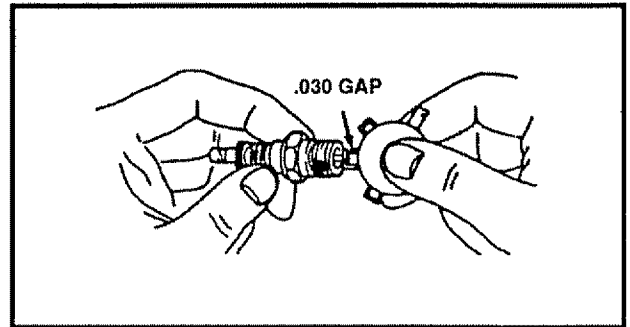

FIG. 36
- Be sure the spark plug is clean and free of foreign material. Check the electrodes gap (See Fig. 36) with a wire feeler gauge and reset the gap to .030 inch if necessary.